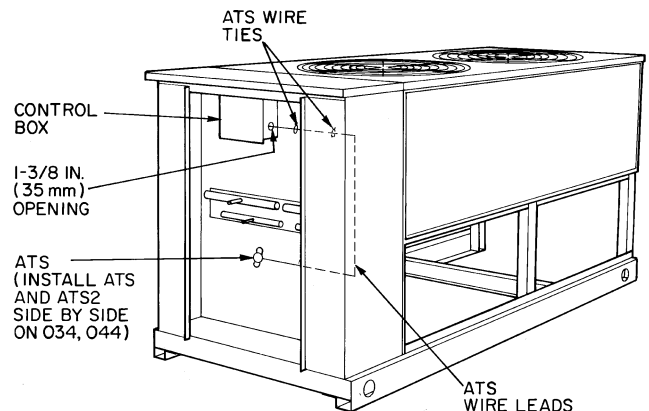
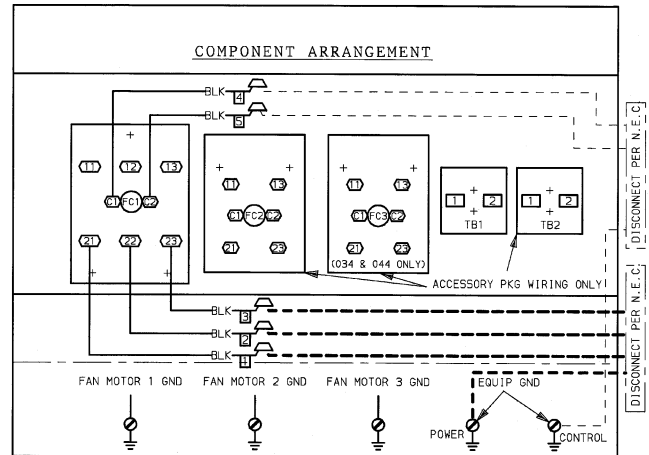

Fig. 9 — Model 09DK (028 Shown)
Fig. 10 — Component Arrangement
2. Remove unit control box cover. See Fig. 9.
3. *09DK020-028 Units:* Mount temperature actuated switch (ATS) onto the bottom inner divider panel of unit, using two no. 6AB x 1/2-in. long screws provided. Screw holes are predrilled in panel. See Fig. 9.
09DK034,044 Units: Mount temperature actuated switches (ATS and ATS2) onto the bottom inner divider panel of unit, using two no. 6AB x 1/2-in. long screws provided. (2 screws for each switch). Mount switches side by side in predrilled holes. See Fig. 9.
4. *09DK020-028 Units:* Install fan contactor FC2 and terminal block TB2 inside control box. See Fig 10. Disconnect red wire from FC1 (11) and orange wire from FC1 (13). Connect red wire to FC2 (21). Connect orange wire to FC2 (23). Attach 8-in. black wire provided in accessory package to FC1 (11) and FC2 (11). Connect the 8-in. blue wire to FC1 (13) and FC2 (13). Next, connect the 8-in. white wire to FC1 neutral side, and FC2 (C2). Attach the 18-in. black wire to FC1 control power side and TB2 (1). Connect one lead of ATS to TB2 (1) and connect the other lead to FC2 (C1).
09DK034,044 Units: Install fan contactors FC2 and FC3 and terminal block TB2 inside control box. See Fig 9. Add terminal adapter to TB2 [1]. See Fig. 10 and 11. Disconnect red and pink wires from FC1 [11]. Also, disconnect orange and gray wires from FC1 [13]. Connect red wire to FC2 [21] and pink wire to FC3 [21]. Also, connect orange wire to FC2 [23] and gray wire to FC3 [23]. Attach 8-in. black wire provided in accessory package to FC1 [11] and FC2 [11]. Connect the other 8-in. black wire to FC1 [11] and FC3 [11]. Connect an 8-in. blue wire to FC1 [13] and FC2 [13]. Attach the other 8-in. blue wire to FC1 [13] and FC3 [13]. Next, connect an 8-in. white wire to FC1 neutral side and FC2 [C2]. Attach the other 8-in. white wire to FC2 [C2] and FC3 [C2]. Connect the 18-in. black wire to FC1 control power side and TB2 [1]. Attach one lead of ATS (Air Temperature Switch) to TB2 [1] and the other lead to FC2 [C1]. Connect one lead of ATS2 to TB2 [1] and the other lead to FC3 [C1]. See Fig. 12 for wiring connections.
5. Route the wire leads of ATS around the coil, keeping them away from the coil and any sharp metal edges. Install wire ties provided through predrilled holes in upper divider panel. See Fig. 9. Run ATS wire leads through wire ties, then into the 1³/₈-in. (35 mm) diameter control box opening.